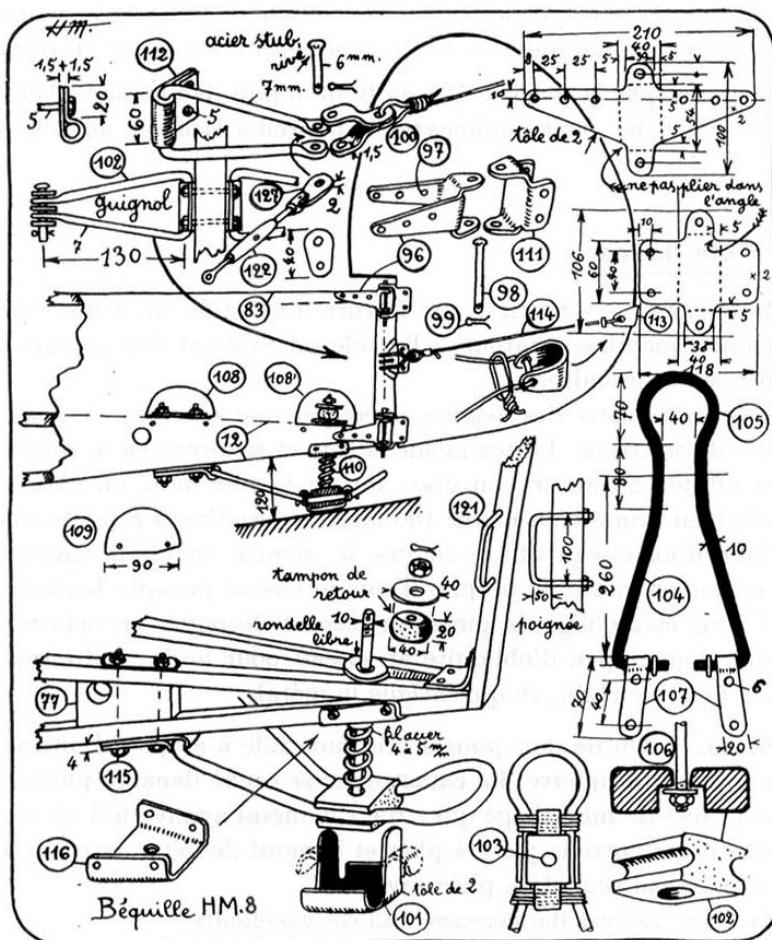

Figure 3.19: Rear landing gear
The trailing joint of the longerons ⑧ is clamped inside a fitting ⑯ in 2mm steel by three 5mm threaded rods ⑰ (fig 3.19). An exactly similar fitting is held to the trailing joint of longerons ⑫ and ⑯. Their outer lugs connect them to the lugs of the rudder fittings ⑪ and ⑫, by hinge pins ⑯ and cotter pins ⑯.
Finally, the double strand will join the turnbuckle (122) (fig. 3.19) where it is attached by a cable clamp (123) designed for 4.5mm cable. Tie each loose end and join them both to the cable. Leave 50—100mm excess.